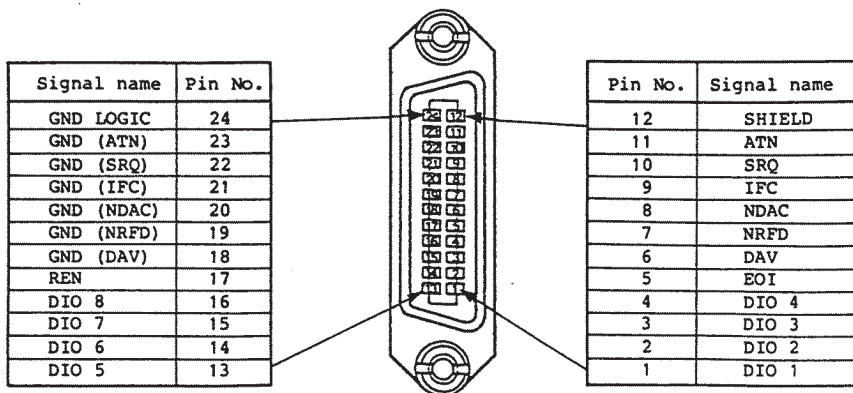

Figure 5-3 Pin Arrangement
- Connector : 24-pin GPIB connector See Figure 5-3. 57-20240-D35A (Product of Anphenol Corp. or equivalent)